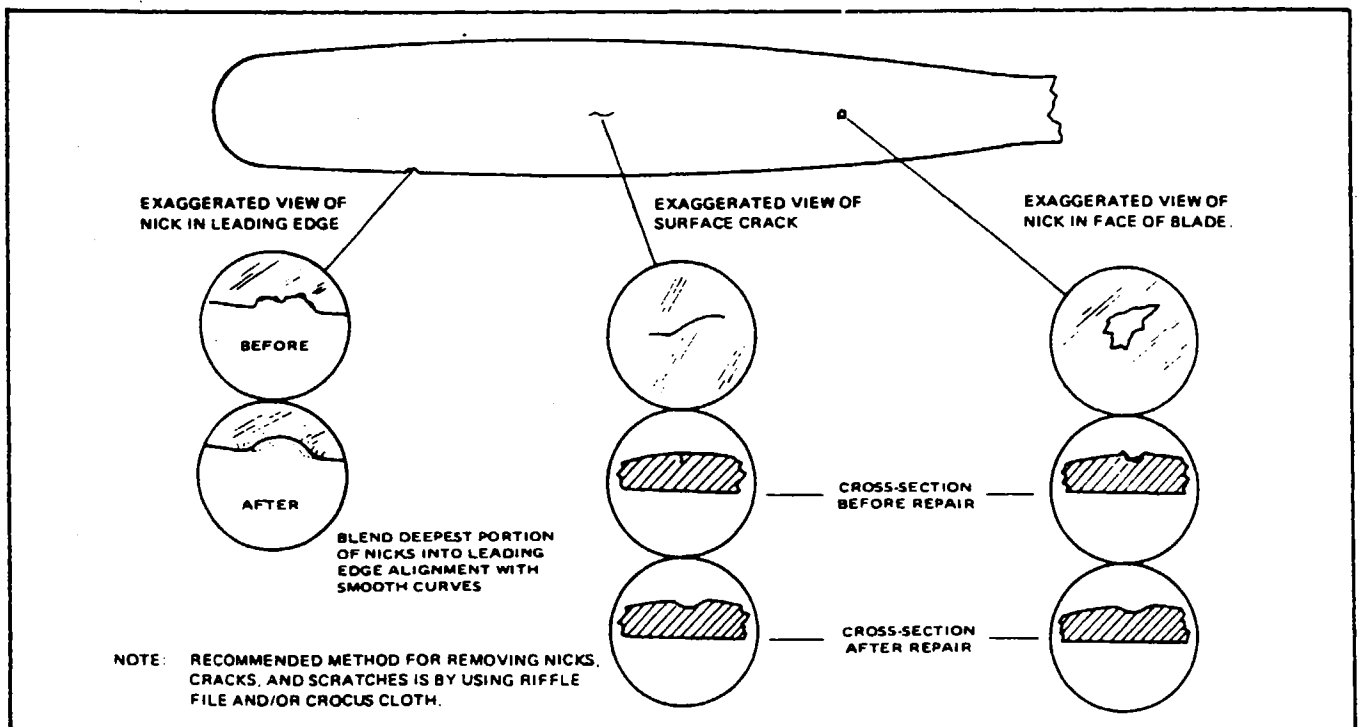

Figure 8-4. Typical Nicks and Removal Method
- g. Inspect the blades for damage or cracks. Nicks in the leading edges of blades should be filed out and all edges rounded, as cracks sometimes start from such places. Use fine emery cloth for finishing. (Refer to Figure 8-4 for propeller blade care.)